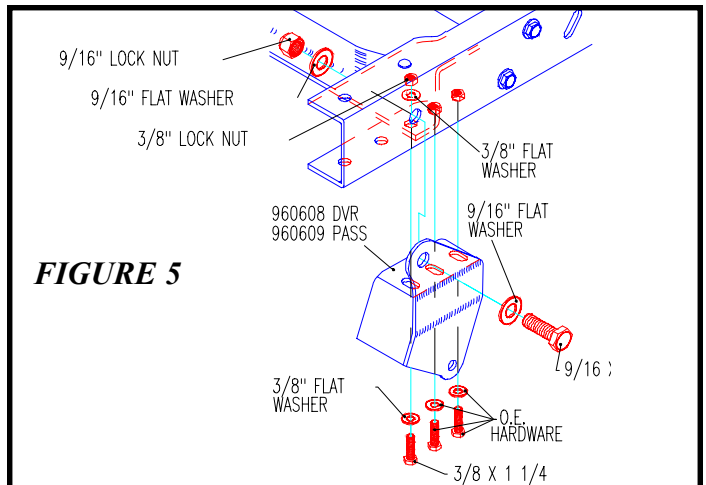

FIGURE 5
2. Place the DRV bracket (960608) onto the DRV side of frame as shown in **figure 5**.
3. Retain the bracket as shown in **figure 5**.
- a. Place (1) 9/16" x 2" coarse thd bolt, (2) 9/16" SAE washers, and (1) 9/16" coarse thd lock nut into the large side hole (DO NOT TIGHTEN).
- c. Place (1) 3/8" X 1 1/4" coarse thd bolt, (2) 5/16" flat washers, (2) 3/8" coarse thd lock nut into the front hole at the bottom of the frame (where the rivet was removed) (DO NOT TIGHTEN).